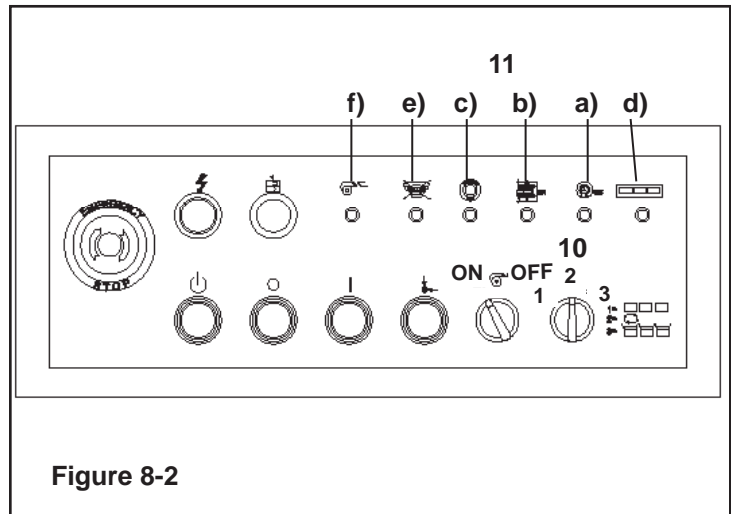

Figure 8-2
10. Operating mode panel (**Figure 8-2**).